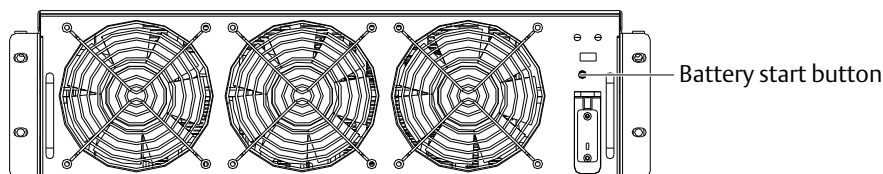

Figure 5-2 Location of battery start button
2. If the number of the power module is less than four, you can press the battery start button (see Figure 5-2) on the front panel of any power module. If more than four power modules, first press the battery start button of any power module, and then wait for five seconds to press the battery start button of another power module.